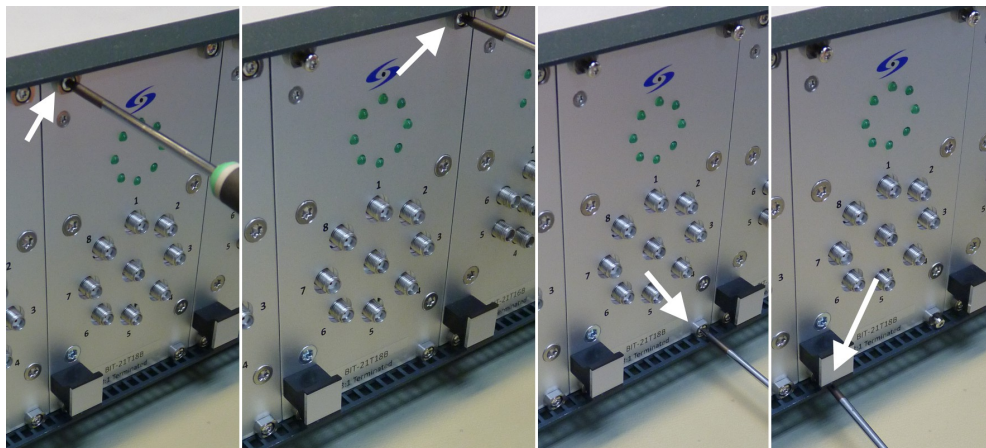

Figure 13: Removing screws from modules
2. Dismount the two screws at the very top of the module and the two screws at the very bottom of the module (below the handle) using a Torx T8 screwdriver (see Figure 13)
4. Mount the two screws at the very top of the module and the two screws at the very bottom of the module (below the handle) using a Torx T8 screwdriver (reverse order of Figure 13)